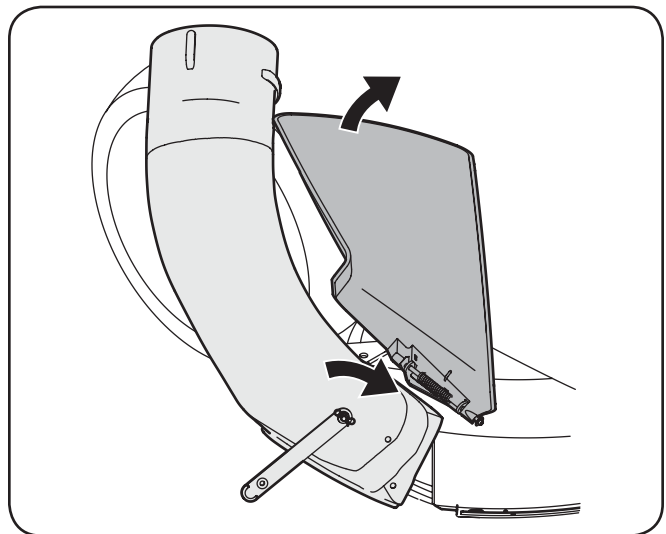

Figure 4-21
- With the tractor's discharge chute raised up and held open, install the chute elbow over the chute opening by placing the top, rear edge of the chute elbow over the rear of the deck opening, then pivoting the chute elbow down and over the chute opening. See Fig. 4-21.